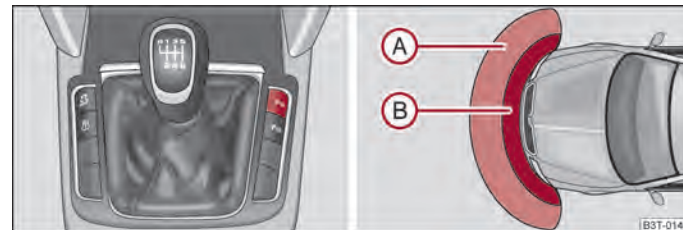

Fig. 121 Activating the parking aid/parking aid: Detection range of the front sensors
The distance warning begins at a distance of about 120 cm from the obstacle in front of the vehicle (area A ⇒ fig. 121) and about 160 cm from the obstacle behind the vehicle (area B). The interval between the warning signals becomes shorter as the clearance is reduced.
The parking aid is activated when the **reverse gear** is engaged and the ignition is switched on or by pressing the button  **⇒ fig. 121** - left, the symbol  lights up in the button. The activation is confirmed by a brief acknowledgement signal.
The parking aid is deactivated after pressing the button  **⇒ fig. 121** or at a speed of more than 10 km/h - the symbol  in the button is no longer illuminated.
- If a warning signal sounds for about 3 seconds after activating the system and there is no obstacle close to your car, this indicates a system fault. The fault is confirmed additionally when the symbol  flashes in the button **⇒ fig. 121**. Have the fault rectified by a specialist workshop.